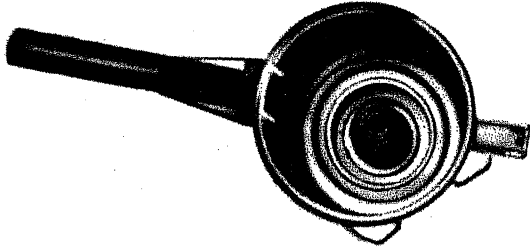

Figure 4
5. Place spring into cylinder. (see Figure 4).